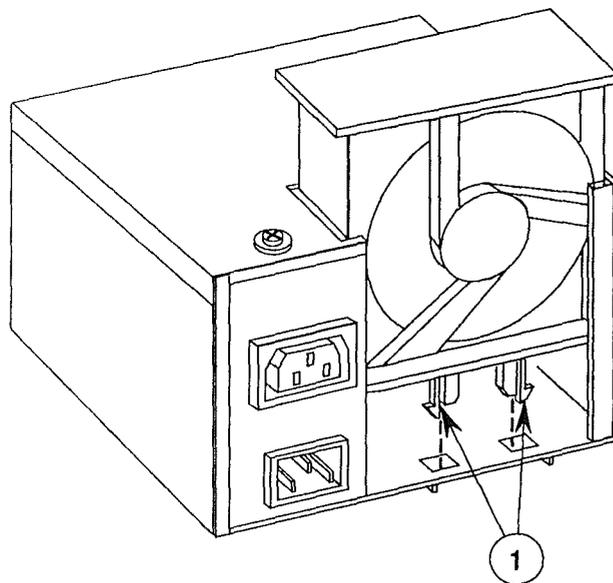

FIGURE 7
2. Unlatch the two bracket latches (Figure 7, #1) that protrude from the bottom of the power supply by gently squeezing them together until they clear the metal tabs. As the tabs are released, push up on them so that the fan bracket starts to come out of the power supply case.